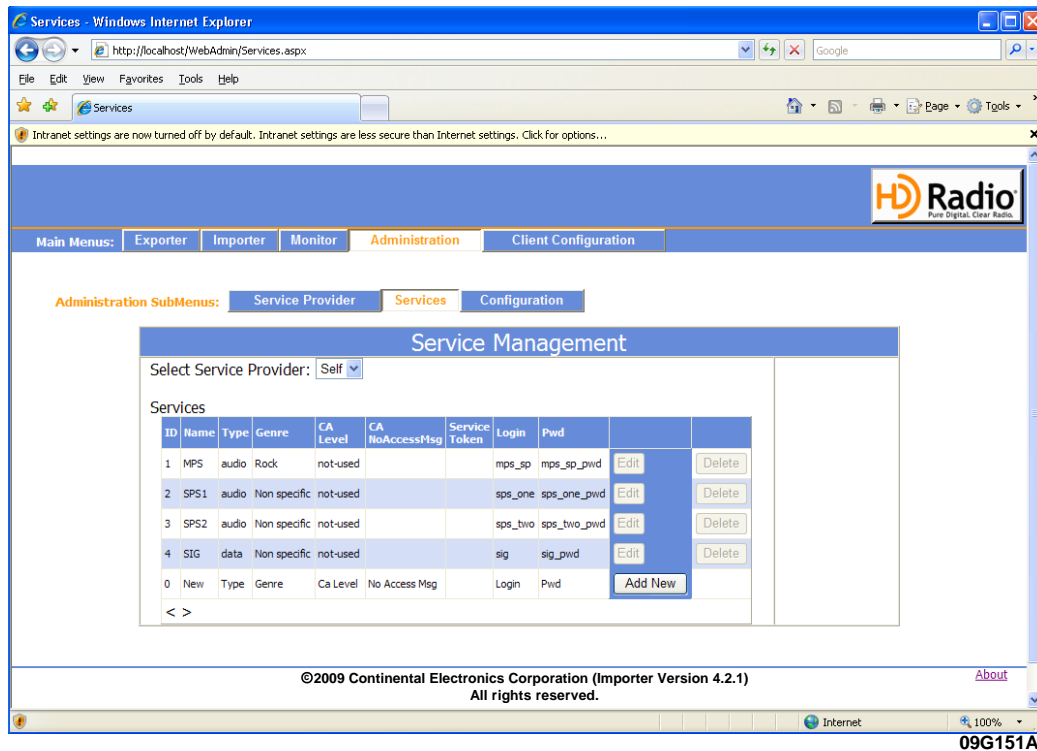
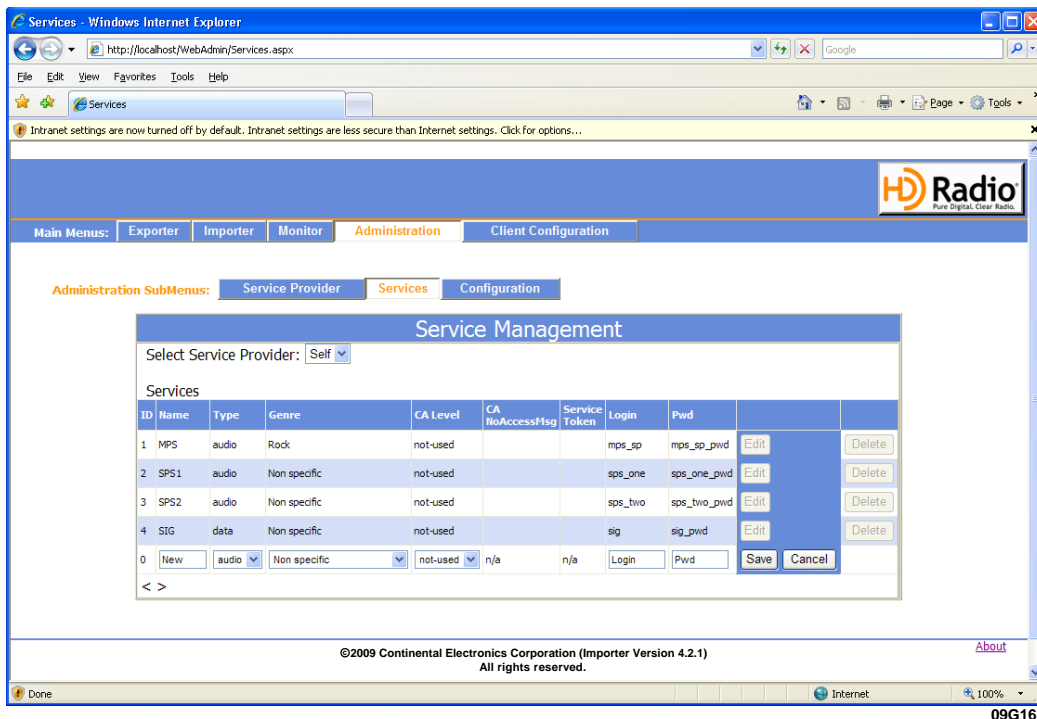

Figure 3-13a. Admin - Services Screen.
Figure 3-13b. Admin - Services Screen.
<p>The screen shown in Figure 3-13a allows users to view all the services assigned to a particular service provider. In addition, a user can edit the information for an existing service, add a new service or delete an existing service. Note, before deleting a service, this service must be deleted from all the stored configurations.</p> <p>When Add New is selected, Figure 3-13b displays. The row of boxes and drop-down menus allows configuration of the new service. Once the service is configured, select Save.</p> <p>Notice the fields associated with Conditionally Accessed (CA) services:</p> <ul style="list-style-type: none">CA Level – Sets the CA level. There are three choices:<ul style="list-style-type: none">(1) Not Used, meaning the service is not a CA service and never will be.(2) Public, meaning the service should be treated as a CA service, but is currently free to air.(3) Private, meaning the service is a CA service. Once the service is defined as either non-CA (not used) or CA (public or private), it cannot be changed. To change the service, it must first be removed and then redefined.CA NoAccessMsg – Sets the text string displayed to the radio listener if the radio is not entitled to receive the CA programming.Service Token – Defines attributes associated with the service. The Service Token is obtained from iBiquity Digital and is required for all data services and any CA service. Service Tokens can be obtained from warrier@iBiquity.com.